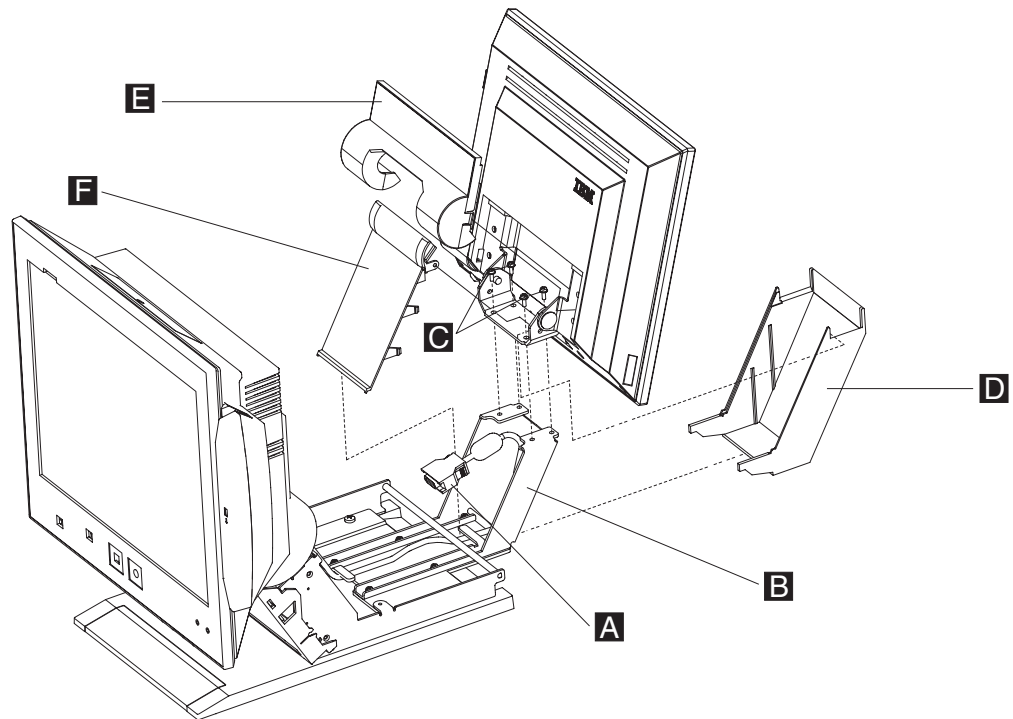

Figure 107. 4820 base plate being attached to a free-standing SurePOS 500/600 base plate
3. Remove the 4820 filler panels **D**, **E**, and **F** as shown in Figure 107 on page 128.
4. Disconnect the 4820 display cable **A** from the external video connector on the 4820 and from the rear connector panel of the SurePOS 500/600, as show in Figure 107.